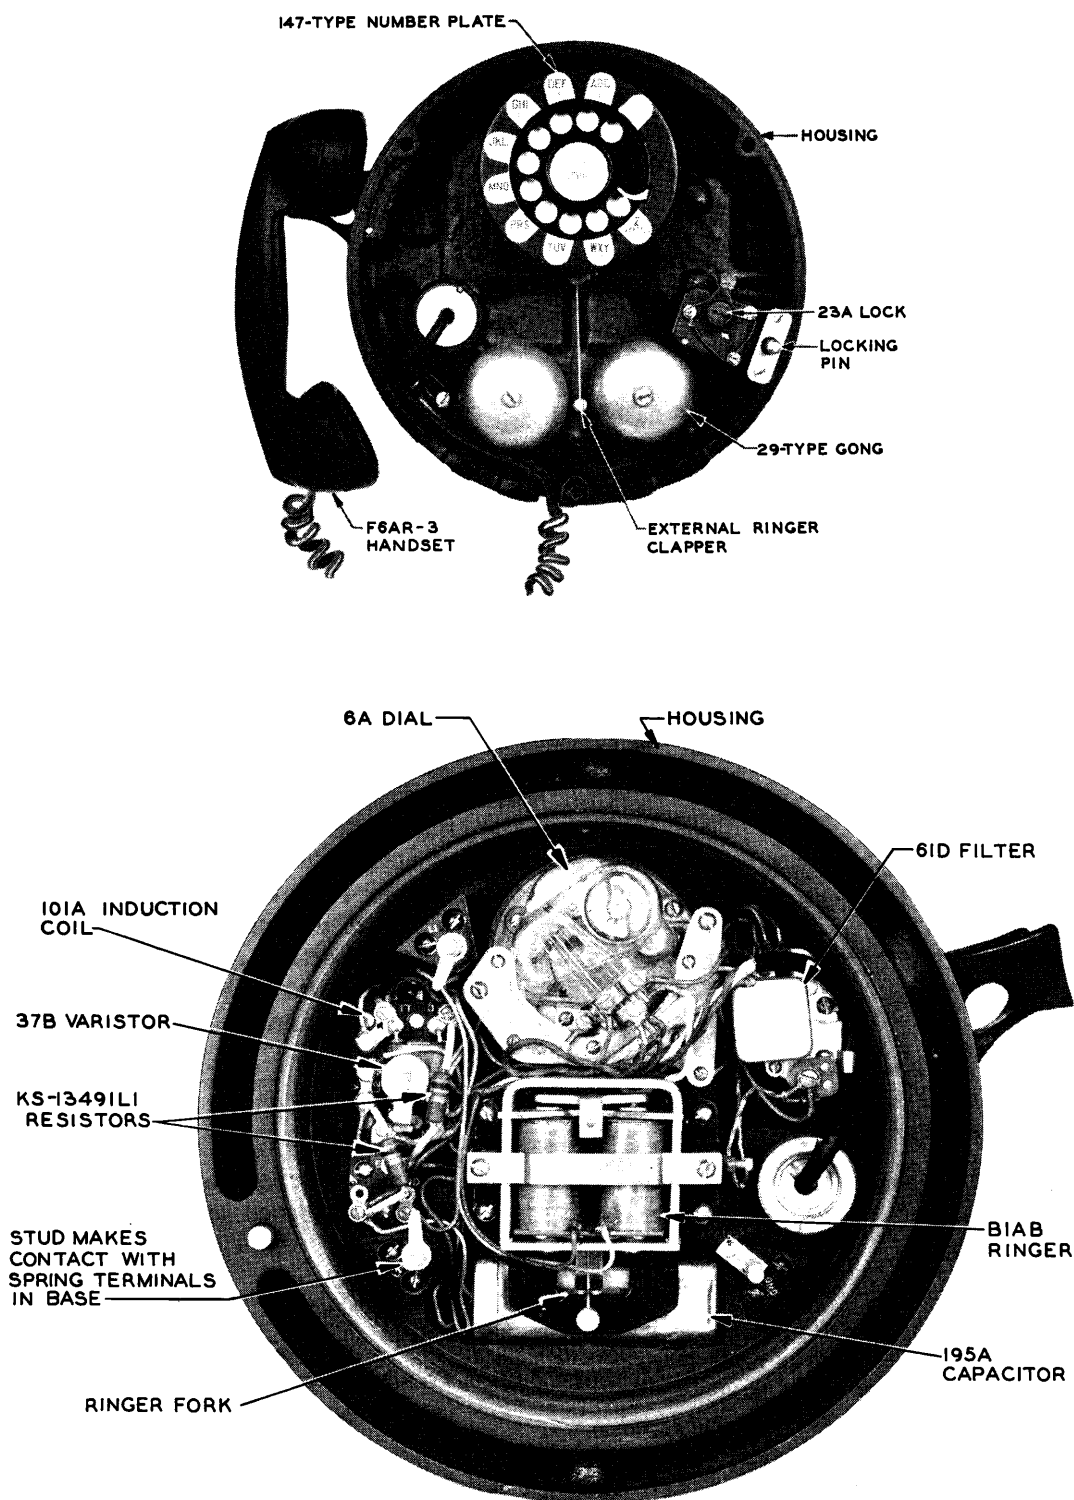

Fig. 5 — Interior and Front View of 9B Apparatus Unit
**2.03** The housing, which screws onto the base, contains the usual telephone apparatus (see Fig. 5). In addition, two 1-megohm resistors KS-13491, List 1 are provided, one across each capacitor to discharge the circuit before the housing is removed. Three projecting studs located on the back of the housing make contact with the three spring terminals in the base, thus carrying line and ground connections into the housing. The housing is equipped with a 23A lock and two keys; the same key fits all locks. Housing cannot be locked in place unless the locking pin is engaged in the locking hole in base of set.
2.07 It has been found desirable to supply the 320ER and FR telephone set less base assembly for maintenance purposes. The telephone set less base assembly P-10E665 has been coded as the 9A apparatus unit for manual service and the 9B apparatus unit for dial service. Fig 5 shows the 9B apparatus unit without the cover. Although these apparatus units are being made available, the complete set is still ordered as the 320ER or FR telephone set.